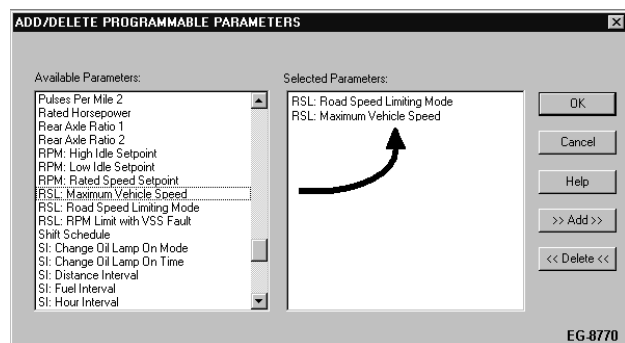

Figure 237
2. Double clicking on a parameter from the **Selected Parameters** list box will remove it from the **Vehicle Programming** view window. (See Figure 237, page 408) .